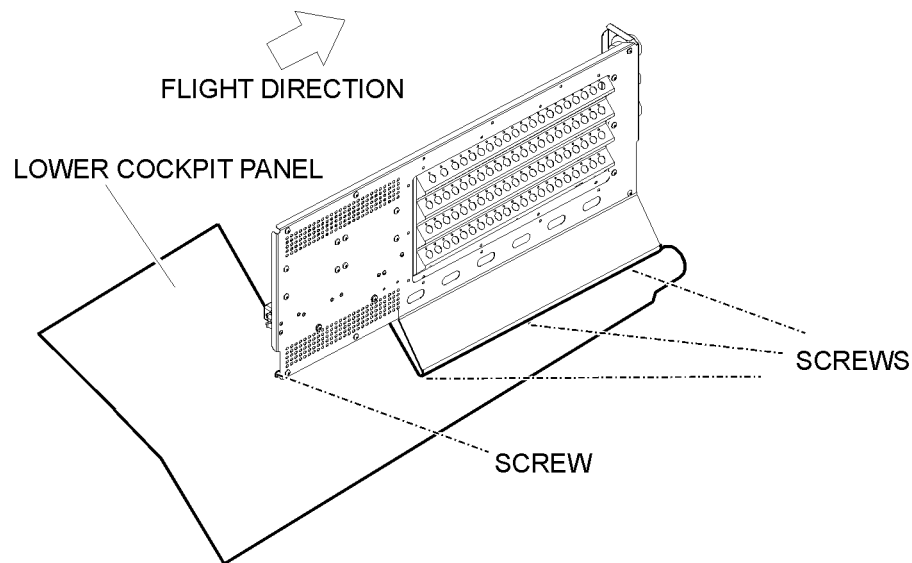

Fig. 231 - Lower Cockpit Panel (Ferry Flight Configuration) - Removal
53. Lower Cockpit Panels (Ferry Flight Configuration) - (Removal)(Ref. to Fig. 231)